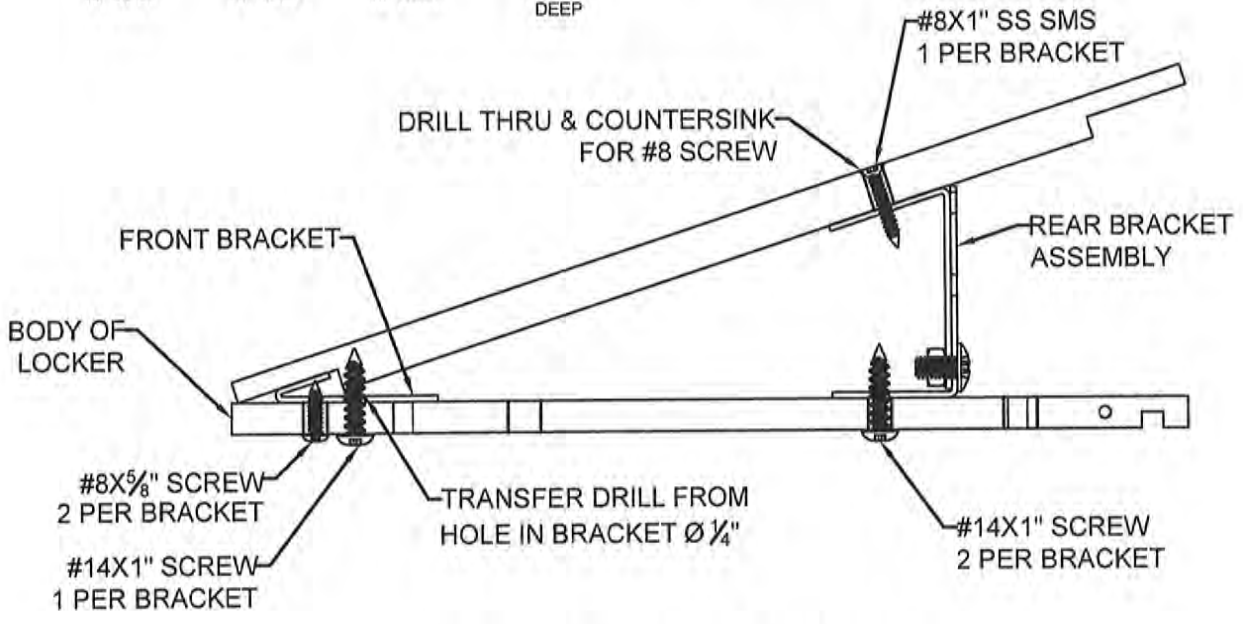

Figure 7.1 Slope Top Assembly
- 7.2 Locate the front bracket as indicated on the shop drawings. Install with (2) #8 X 5/8" screws thru the inside of the locker front vent holes (Fig 7.1).
- 7.6 Attach the rear of the slope top panel by drilling a $\frac{1}{8}$ " hole thru the slope top and rear bracket. Countersink for #8 screw. Use a #8 X 1" screw to attach, see Figure 7.1. Adhesives (double sided tape, liquid nails, etc.) can be used instead of using screws.